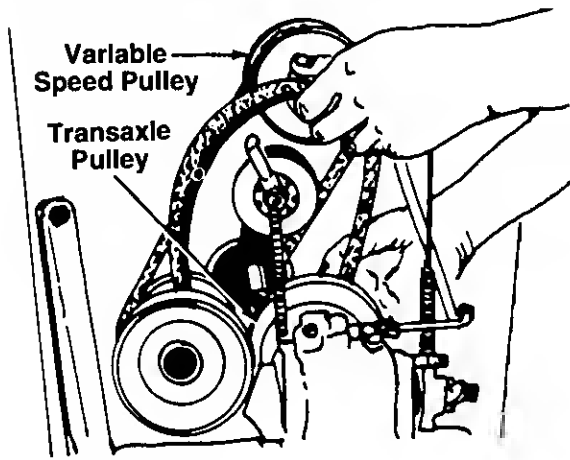

FIGURE 18.
6. Slip the "V"-belt off the variable speed pulley and transaxle pulley. See figure 18.